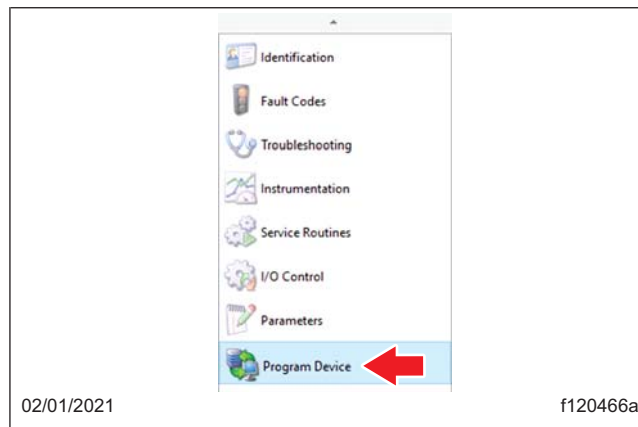

Fig. 3, Selecting Program Device (ECU)
4. Select 'Program Device' from the upper left-hand side of the window. See **Fig. 3**.